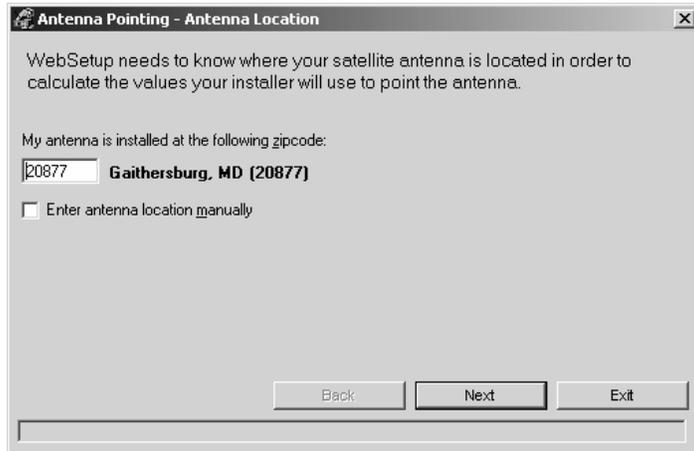

Figure 53: Verifying the site zip code is correct
11. Verify the zip code displayed on the Antenna Location screen matches the zip code for the installation site and click **Next**. Correct the zip code if necessary. See Figure 53.